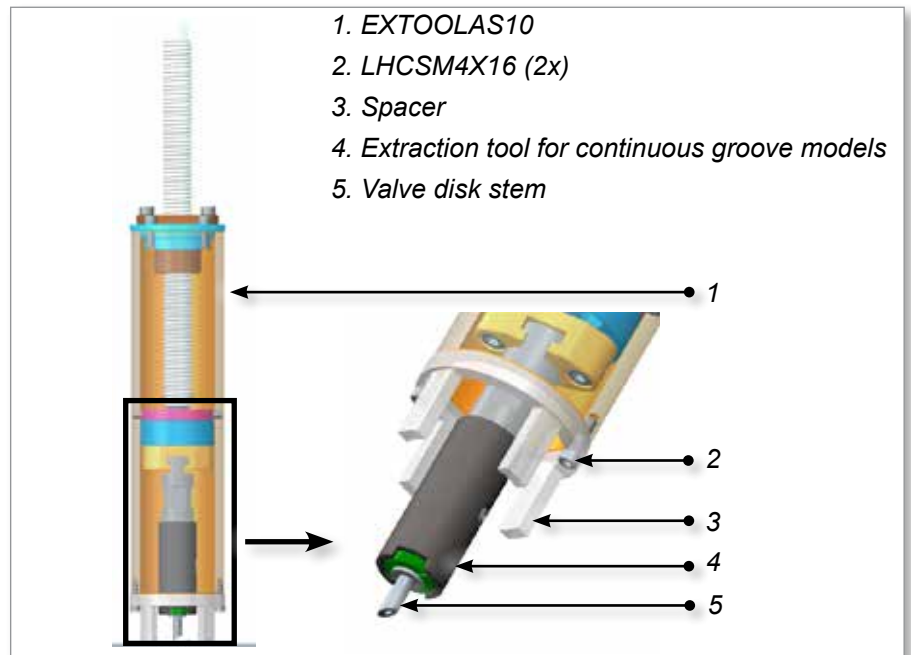

Figure 10-5 For valve disks with continuous grooves
- b) Attach the valve disk extraction tool to the valve disk stem. See Figure 10-5.